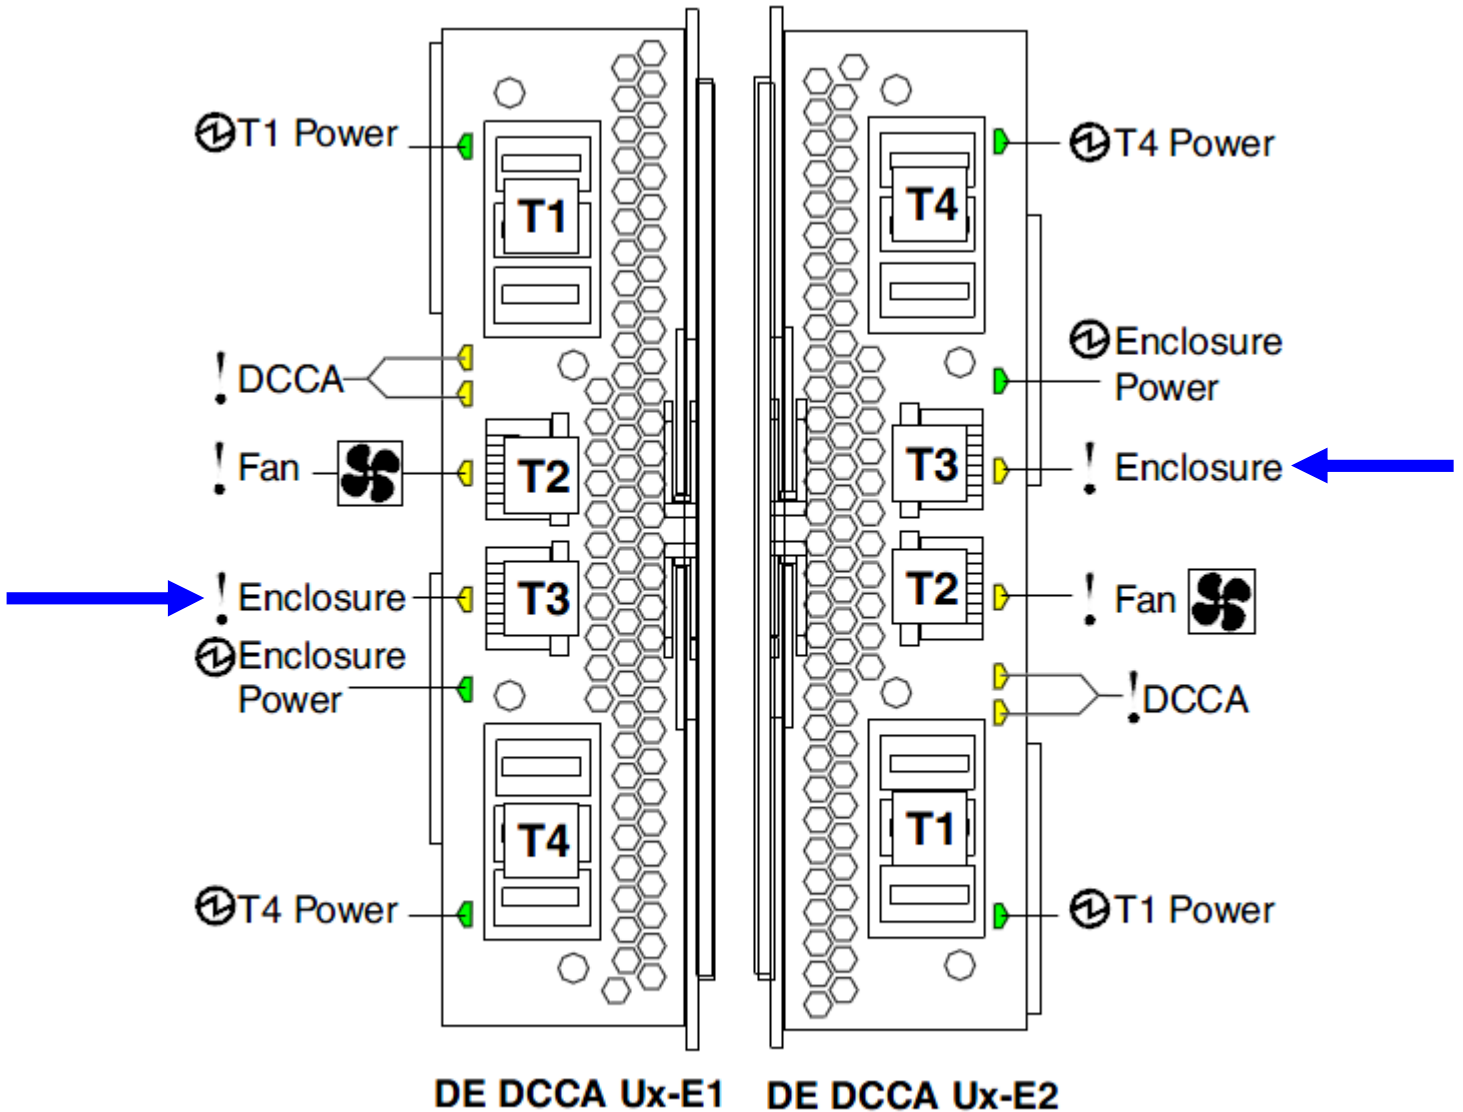
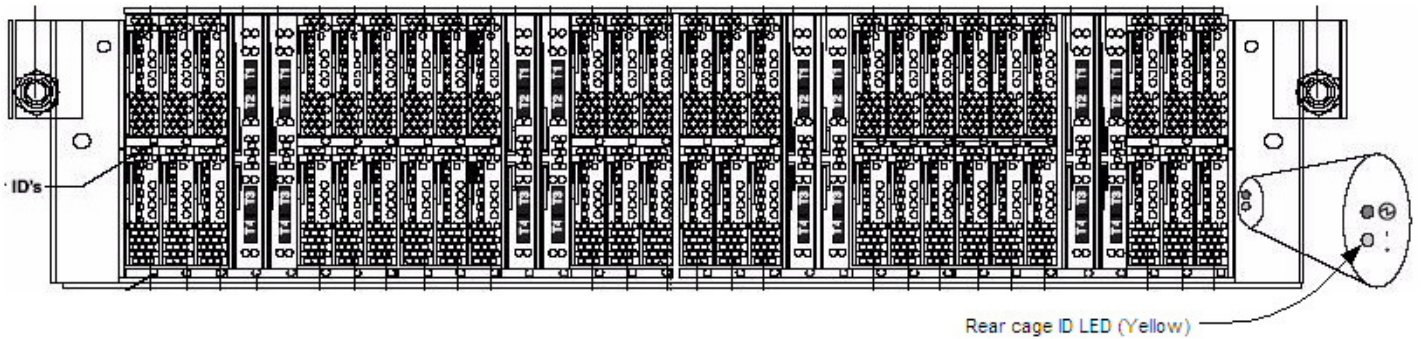

Figure 15 The Front DE Enclosure ID LEDs are located on the DCCAs
Figure 16 Rear Disk Enclosure ID LED is located on the bottom right side of the Disk Enclosure
STEP 3 Identify the failing Disk Enclosure by looking for the blinking amber Enclosure ID LEDs (see Figure 15 and Figure 16).